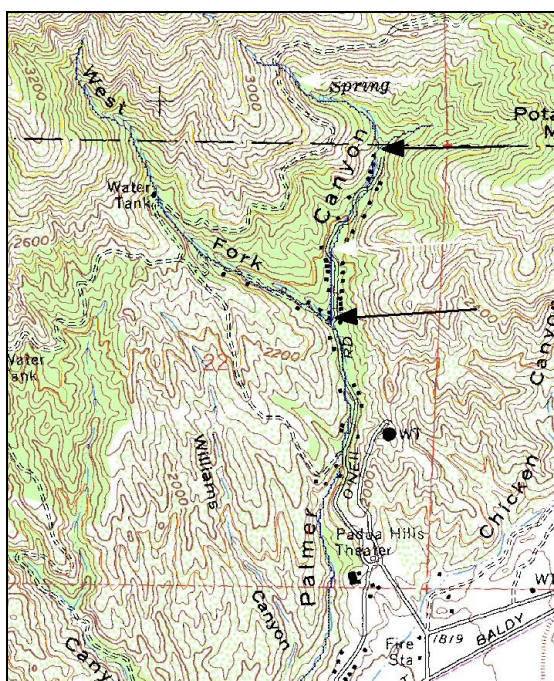

Figure 4-4: Double-click nodes at each location indicated
30. Double-click on each of the two nodes located at the stream branches indicated in Figure 4-4 and change the attribute to *Drainage outlet*, then click *OK*.